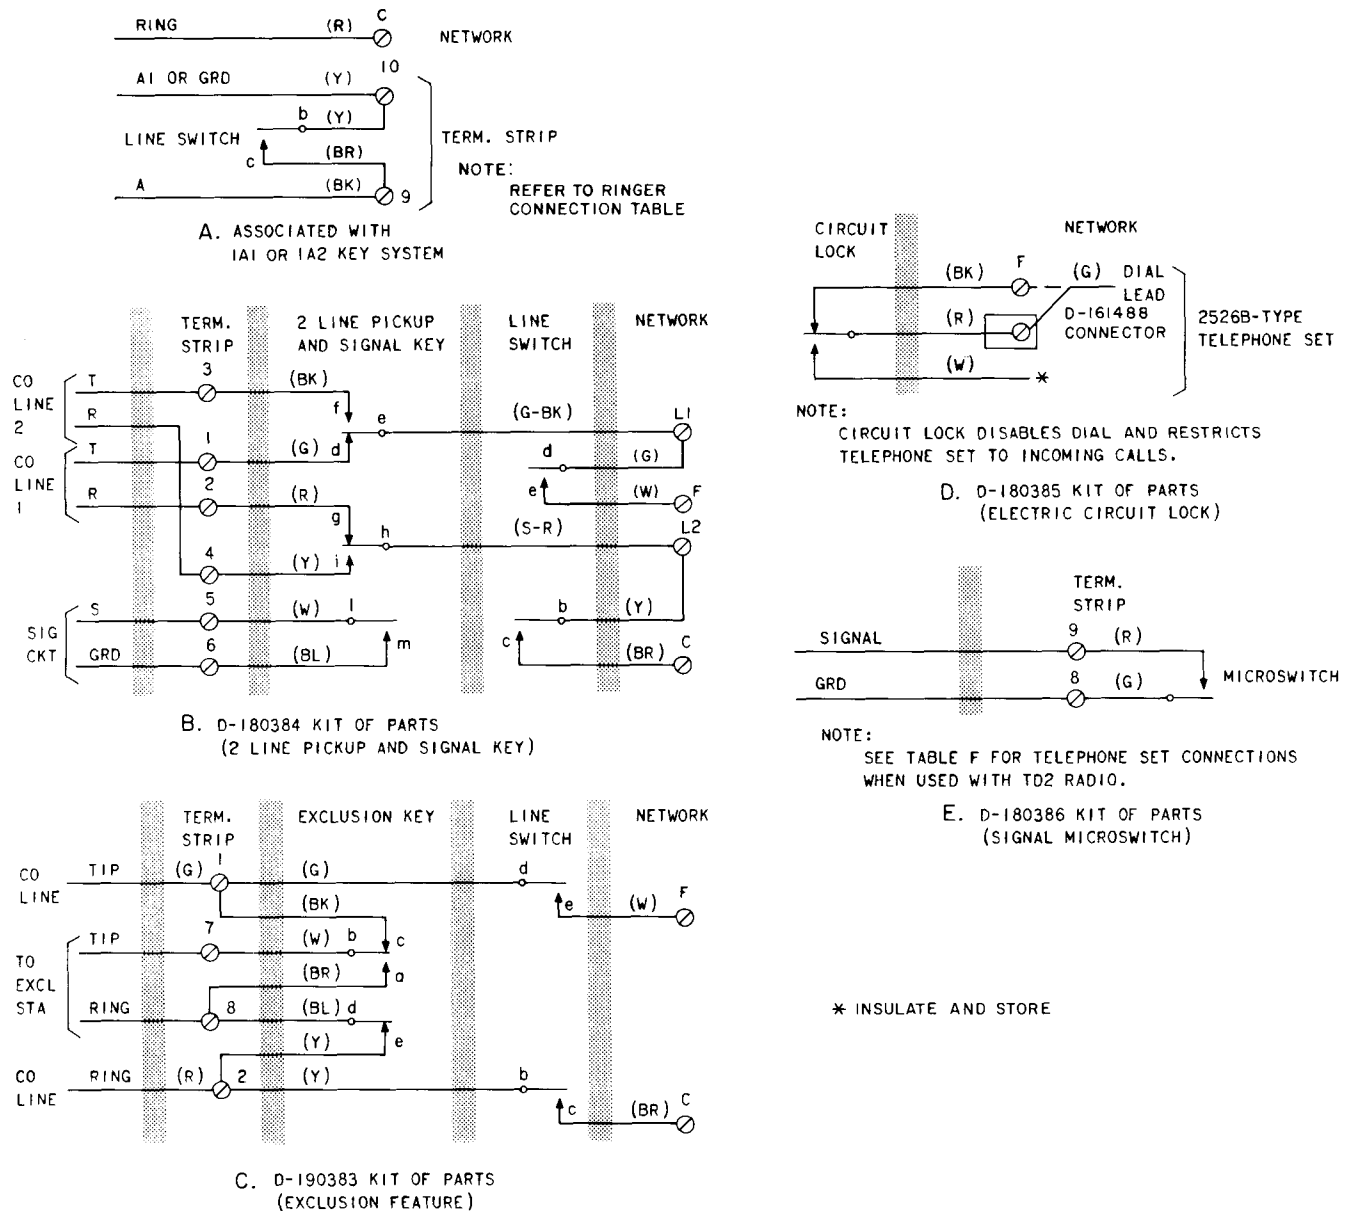

Fig. 10—Connections for Optional Features
- (1) Remove standard line switch and replace with line switch and plunger assembly from the kit of parts.
- (2) Mount exclusion switch above left dial bracket using screws furnished with the kit of parts.
- (3) Refer to Fig. 10 for connection information.
- (1) Mount the switch bracket to the mounting plate of the telephone set base directly below the dial bracket using two screws provided.
- (2) Refer to Fig. 10 for connection information.
- (3) Install a faceplate with the hole provided for the two-line switch (refer to Table A for proper faceplate code).
- (1) Remove dial from dial mounting brackets.
- (2) Mount bracket for circuit lock to outside of right dial mounting bracket.
- (4) Reinstall dial on mounting bracket.
- (5) Install faceplate with hole provided for the circuit lock (refer to Table A for proper faceplate code).
3.16 The terminal plate assembly (provided with microswitch kit) replaces the terminal strip located between the dial brackets. Refer to Fig. 10 for microswitch connections and Table F for telephone set modifications when used with TD2 radio.